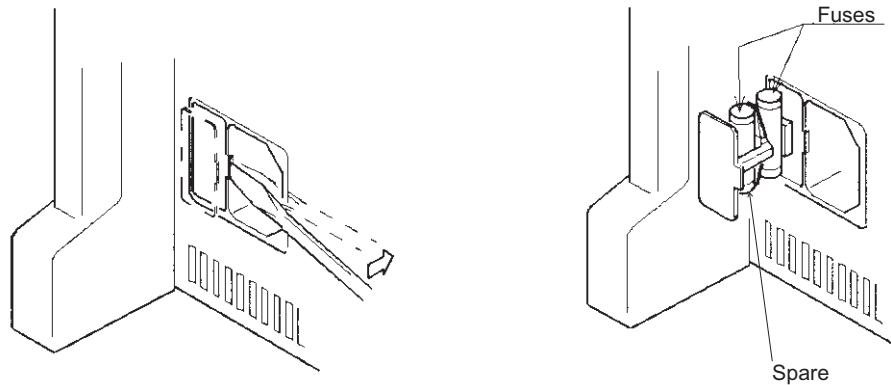

Fig.2-4 Removing the Fuse Holder
- 4 Insert the screwdriver as shown in Fig.2-4.